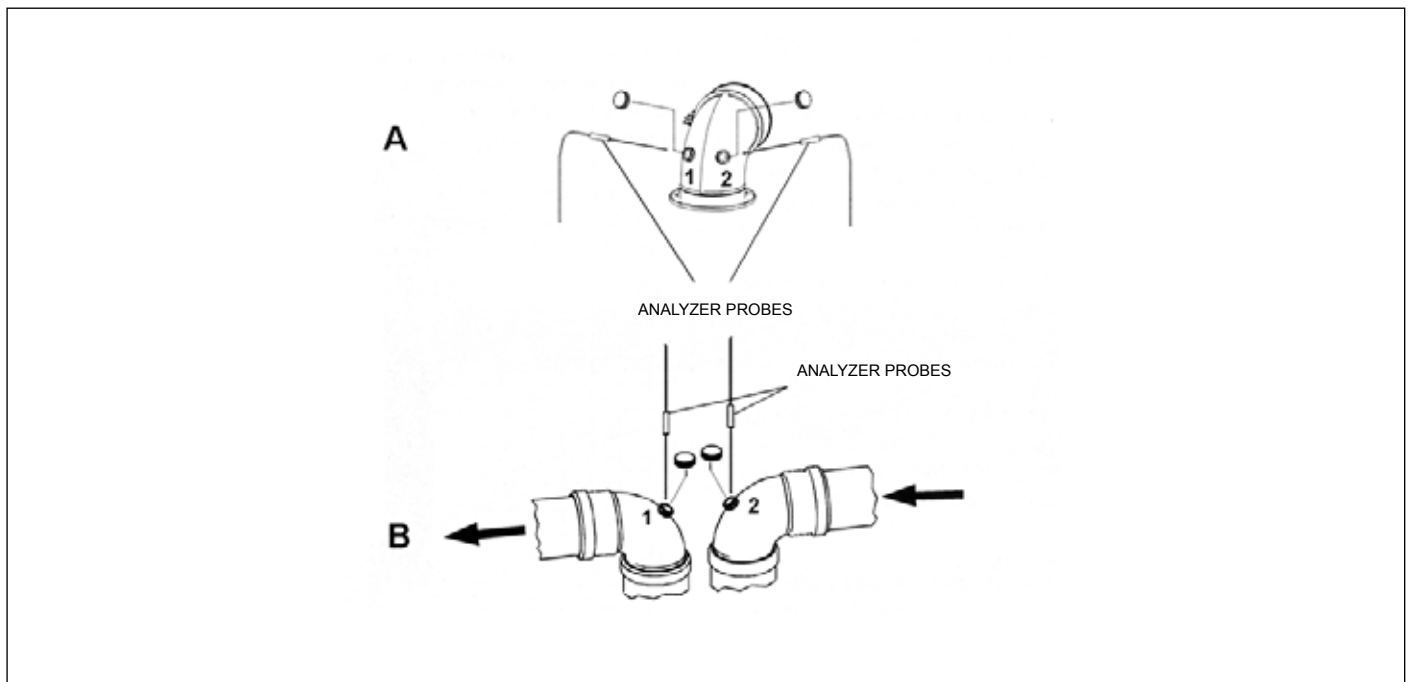

Fig. 12 Examples of flue gas testing points
- assess combustion air temperature from opening 1 (see ref. (A) Fig. 12 Examples of flue gas testing points , for sealed chamber boilers provided with pipes with preset holes).
- assess flue gas temperature and CO₂ quantity from no. 2 opening (see ref. (A) Fig. 12 Examples of flue gas testing points , for sealed chamber boilers provided with pipes with preset holes).
- assess combustion air temperature from opening 2 (see ref. (B) Fig. 12 Examples of flue gas testing points , for sealed chambers provided with pipes with preset holes).
- assess flue gas temperature and CO₂ quantity from no. 1 opening (see ref. (B) Fig. 12 Examples of flue gas testing points , for sealed chamber boilers provided with pipes with preset holes).